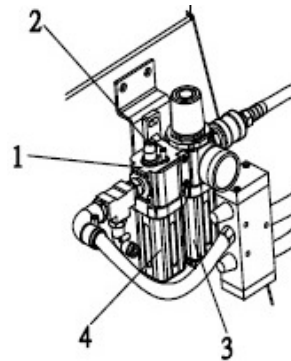

Fig. 22: Filter change and lubrication
Step 2: Check the oil level in lubrication system (Pos. 1, Fig. 22) and top up with high viscosity oil.
- Press the safety switch and turn container (Pos. 4 Fig.22) counterclockwise.
Regularly check the oil flow in the lubricator (Pos. 1, Fig. 22). One drop must fall after each fifth cycle.
- Turn the screw (Pos. 2, Fig. 22) on the lubricator clockwise to reduce the oil flow.
- Turn the screw (Pos. 2, Fig. 22) counterclockwise to increase the oil flow.
Check filter (Pos. 3, Fig. 22) regularly for condensate accumulation. Condensate accumulation can endanger the machine application.